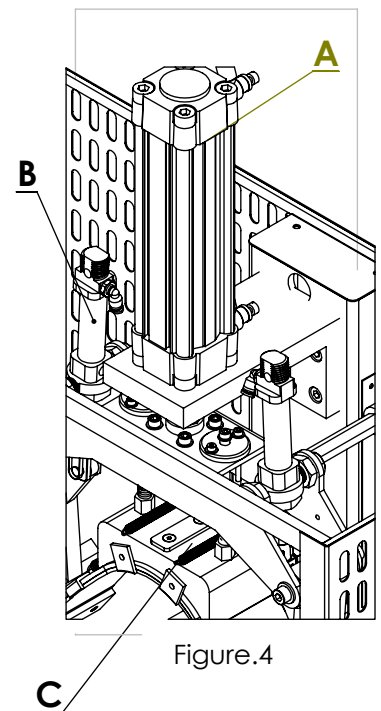

Figure.4
- Control the mould. (Figure.4-C)
- Control cylinders of mould. (Figure.4-A,B).